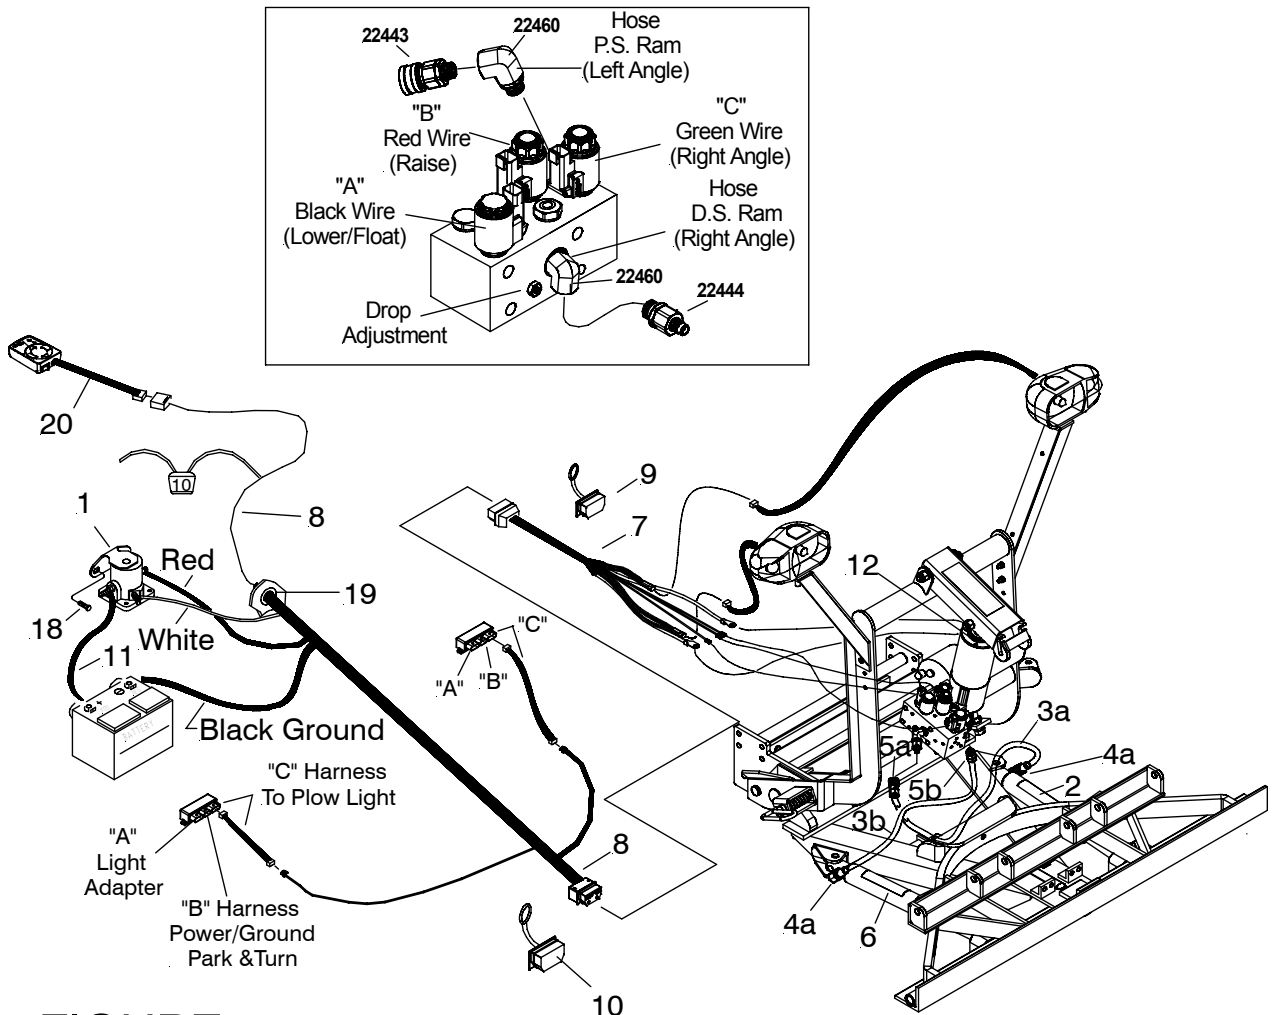

FIGURE 1
Route Cables "C" (Yellow) from module to Male Plug (8). Connect both "C" Harness female ends to the male corresponding ends of the Male Plug (8). As per Figure 1.